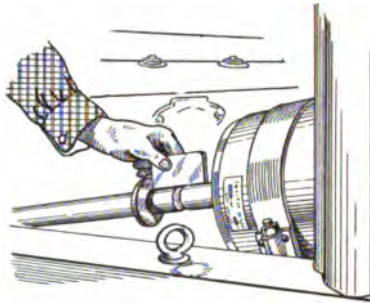

Fig. 377. Checking up Alignment of Motor Shaft and Pinion Shaft
Put in place the front leg bolt *A* and the new sill bolt *B* with lock washers but do not tighten up. Insert the Genemotor from the rear side of the dash through the hole previously cut for the purpose, sliding it on to its cradle, and clamp in place with the steel strap, leaving about  $\frac{3}{8}$ -inch space, Fig. 377, between the motor shaft and the pinion shaft. The flat space on the motor body should be parallel to the iron dash support.
**Motor Alignment.** Raise the front leg and the sill leg of the cradle by a suitable thickness of spacing washers supplied until the ends of the shaft are in line, utilizing the clearance in the bolt holes to obtain the sidewise adjustment. *The ends of the shafts must be lined up accurately to within  $\frac{1}{8}$  inch, or the bearing will overheat and be destroyed.* Check the line-up as shown in Fig. 377. When the